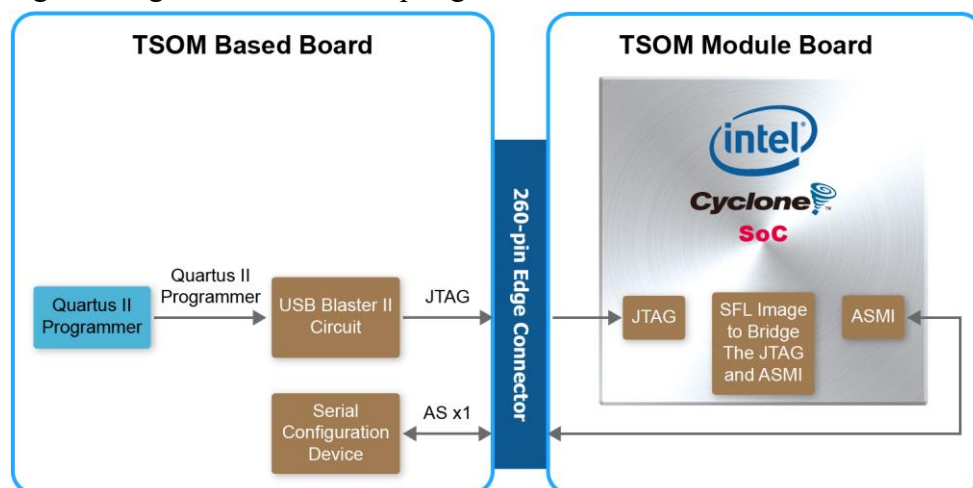

Figure 3-12 Programming a serial configuration device with SFL solution
Users need to use Serial Flash Loader (SFL) to program the serial configuration device via JTAG interface. The FPGA-based SFL is a soft intellectual property (IP) core within the FPGA that bridges the JTAG and Flash interfaces. The SFL Megafunction is available in Quartus II. **Figure 3-12** shows the programming method when adopting SFL solution.